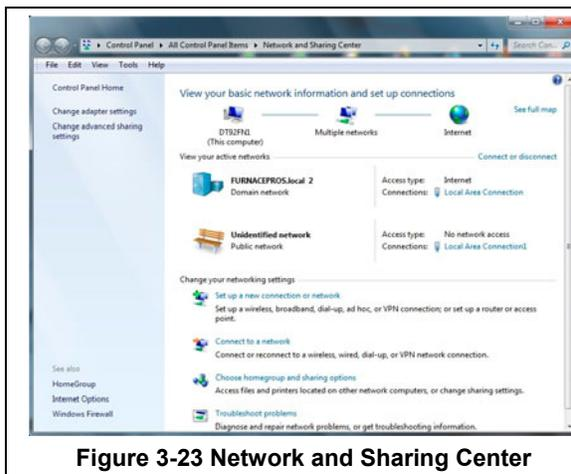

Figure 3-23 Network and Sharing Center
- b. From Network and Sharing Center click on the connection that corresponds to the furnace network (will say “No network access”), Figure 3-23